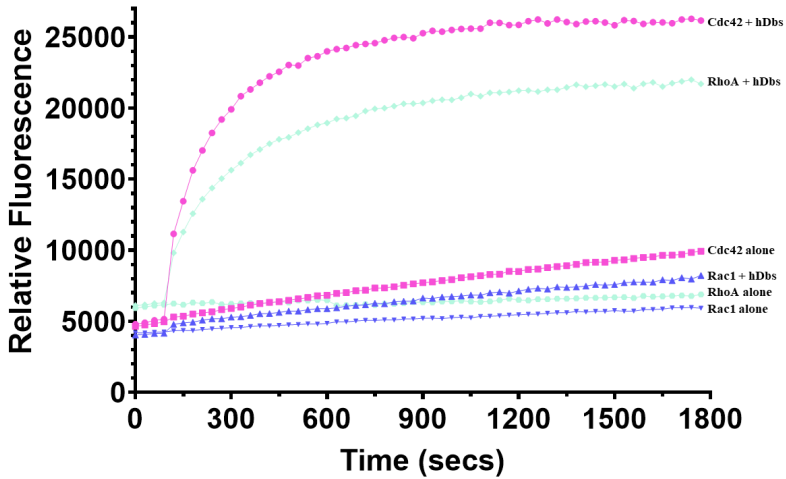
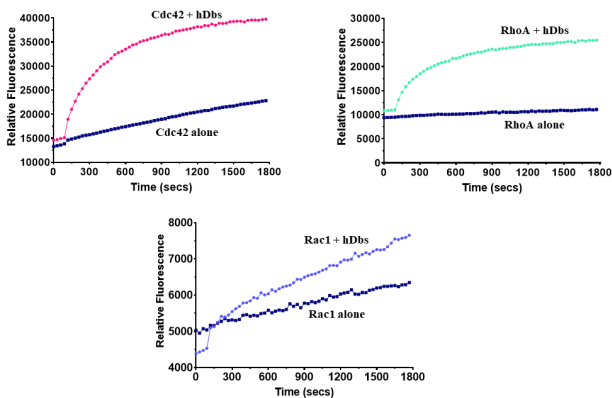

Figure 1. Cdc42, RhoA, and Rac1 exchange assay
Figure 2. Dbs exchange activity for Cdc42, RhoA and Rac1 in 96-well half area plate format. The data shown are the averages of three experiments.
Cytoskeleton Inc. has developed a N-MAR-GTP fluorophore-based Rho-GEF assay suitable for both 96-well and 384-well formats (6). This assay can be applied to multiple research purposes such as characterizing the GEFs and identifying GEF inhibitors in a high-throughput screen format. This kit contains human Cdc42, Rac1 and RhoA proteins and the GEF domain of Dbs as a positive control GEF for Cdc42 (Fig. 1) and RhoA. Dbs shows extremely low GEF activity for Rac1 (see Fig.2 and Ref. 4). Interestingly, it was reported that human Dbs can activate Rac1 in a FRET-based assay (7).
PLEASE ADJUST THE ALIQUOTED VOLUME BASED ON HOW MANY REACTIONS YOU NEED AND WHICH KIND OF PLATE YOU ARE GOING TO USE. The recommended working concentration of GEFs is 0.2 – 2 μ M (consider the percent purity of your GEF protein in this calculation). NOTE: We use 0.5 μ M GEF in the standard hDbs assay (see **Figs. 1 – 3**). You may want to titrate the concentration of GEF in your particular experimental set up.
- Save the readings after the kinetic protocols are finished. The exchange rate can be calculated by reducing the data to V_{max} with the software that accompanies the plate reader. The exchange curve can be achieved by exporting raw data to Microsoft Excel. Examples using positive control hDbs are shown in **Figure 2**. To calculate the specific activity please read **Appendix II**.
PLEASE ADJUST YOUR VOLUME BASED ON THE PLATE YOU ARE USING. The recommended volume here is based upon total volume of 15 μ l (384-well black round bottom half area plate, corning Cat# 3676). The recommended working concentration of GEFs is 0.2 – 1 μ M (Consider the percent purity of your GEF protein in this calculation). NOTE: we use 0.5 μ M GEF in the standard Dbs assay (see Figs. 1 – 3), you may want to titrate the concentration of GEF in your experimental set up.